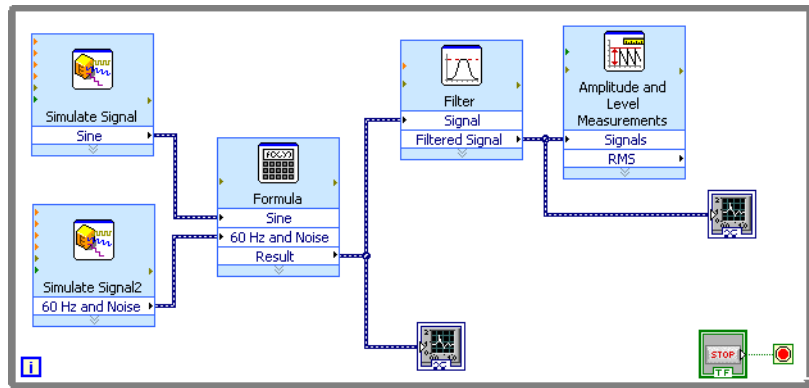

Figure 3-3. Block Diagram of the Analysis VI
12. Select **File»Save**. The block diagram of the Analysis VI should appear similar to Figure 3-3.